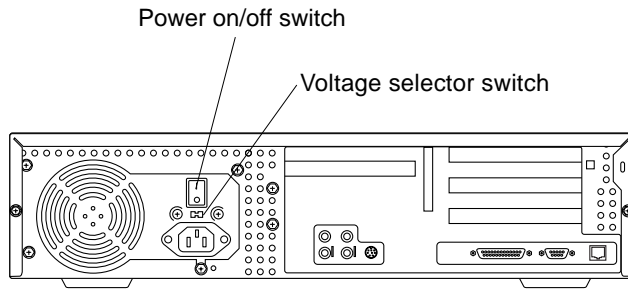

FIGURE 3 System Unit Power On/Off Switch (Ultra 5)
c. Set the system unit power on/off switch to the off position (FIGURE 3).
d. If necessary, set the power on/off switch to the on position (FIGURE 3).